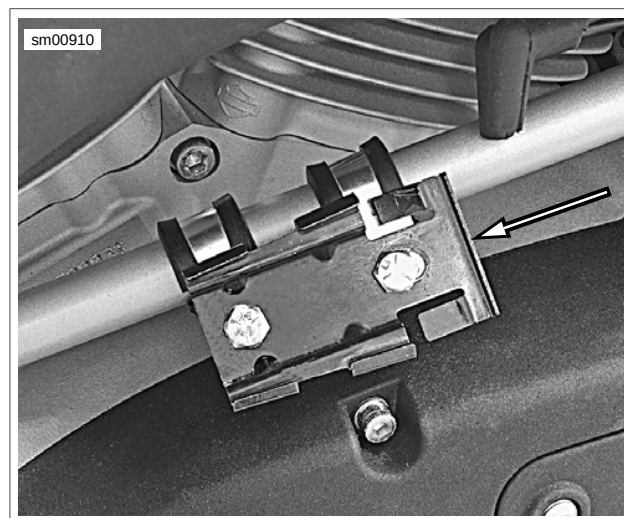

Figure 4-54. Canister Mounting Bracket
1. See Figure 4-54. Label and disconnect the fuel tank vent hose (2) and canister vent hose (3) from the canister.
- See Figure 4-54. Slide canister into position on canister mounting plate and push towards front of vehicle.